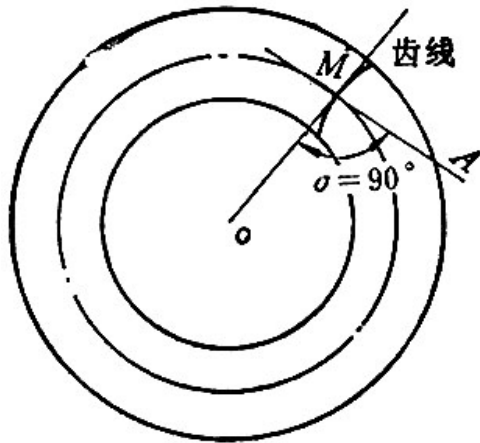

图 5-99
On the imaginary crown wheel or bevel gear, if the difference of spiral angle of tooth trace  $\Delta\beta = 0$ , then the tooth trace of this curved tooth bevel gear is called tooth trace of constant angle. At the midpoint (M) of tooth trace, let  $oM \perp MA$   $\angle oMA = \angle \sigma = 90^\circ$ , then the condition of being tooth trace of constant angle can also be met when the curvature center of tooth trace fall on the MA line. See Figure 5-99.